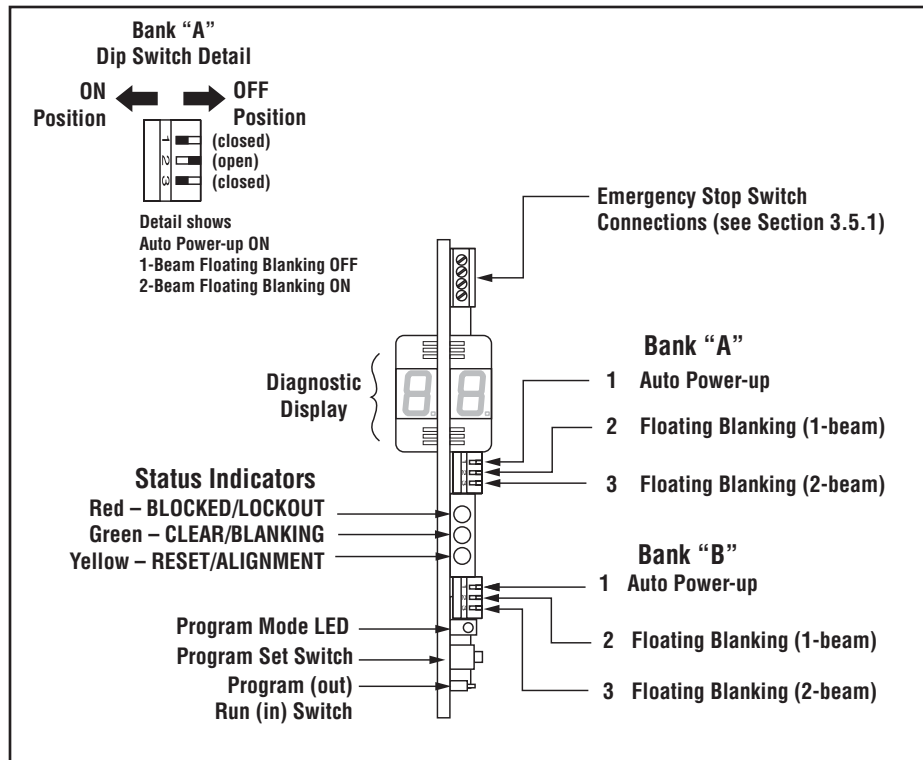

Figure 18. Controller board configuration switches
Mount the MICRO-SCREEN System control box in a convenient location that is free from heavy impulse force and high-amplitude vibration. **The control box must be mounted at a location which provides an unobstructed view of the defined area.** Mounting hole information is given in Figure 17 (below). The MICRO-SCREEN controller module should be configured before initial checkout and use. Controller configuration is done at the row of DIP switches along the edge of the controller module (Figure 18). The controller will automatically sense the length of the emitter and receiver.
Because it has redundant microprocessors, the controller has two identical DIP switch banks (bank A and bank B) which must be set identically. Failure to set both banks identically will cause a lockout condition when power is applied to the control box. **Power to the MICRO-SCREEN System must always be OFF when changing DIP switch settings.** Changing DIP switch settings with power ON will cause a lockout condition. See inset in Figure 18 for DIP switch ON and OFF positions.
Locate the floating blanking (FB) configuration switches in banks A and B (see Figure 18). Set the switches identically at banks A and B. Be aware of the differences in minimum object sensitivity, penetration factor, and required light screen separation distance between the settings (refer to sections 2.1 and 3.2.1). Floating blanking causes the MICRO-SCREEN System to ignore objects of up to the sizes listed in the table below.
Locate the Auto Power-up (AP) configuration switches (see Figure 18) in banks A and B. If Auto Power-up is ON (see Figure 18 inset) when power is applied to the MICRO-SCREEN System, the controller will automatically reset after conducting and passing an internal system checkout. If the switches are OFF, this initial Reset is manual (via the Key RESET switch). Regardless of the setting of the Auto Power-up switches, a Key RESET is always necessary to recover from an internal lockout condition. To select Auto Power-up, remove the protective coating on both switches and push them to the ON position. The switches must be set identically at banks A and B.
Fixed blanking (if used) is programmed during the initial checkout procedure using the Program switches located on the controller board (as shown in Figure 18). See Section 3.5.5 for complete information.
- 4) **Fixed blanking (control box model USCD-2T2 only).** The fixed blanking feature may be programmed if beams are blocked by one or more fixed objects. Fixed blanking requires an emitter/receiver pair with 16 or more beams (see page 6). **Fixed blanking is limited to 30% of the total number of beams, up to a maximum of 12 beams** (see chart on page 30). Contact factory Applications Department if your application requires fixed blanking of a greater number of beams. Programming of fixed blanking involves a simple “teaching” process; it is accomplished using the Diagnostic Display and the Program switches located on the controller board (Figure 18).
- 2) Make sure that Auto Power-up and Floating Blanking Programming switches (located on the controller board, Figure 18) are all turned to OFF.
- 3) Make sure that the Program/Run switch (Figure 18) is in the RUN (in) position.
Move the Program/Run switch on the controller to the Program (out) position (Figure 18). The Program Mode LED will flash and the Diagnostic Display will indicate the total number of beams blocked.
When satisfied that the number of beams blocked is stable, push the Program Set Switch push button on the controller (Figure 18) **for 1/2 to 2 seconds** and release. If the programming is accepted, the Program Mode LED will stop flashing and glow steadily. Programming will be rejected if the Program Set switch is held depressed too long, or not long enough.